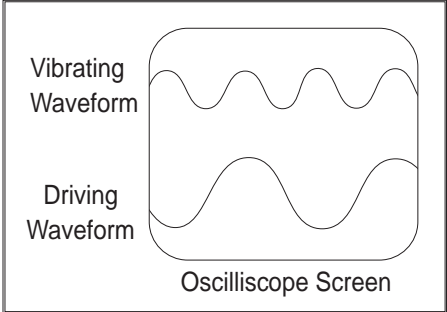

Figure 1.2 String Vibrations at a Multiple of the Driving Frequency
- ② Set the signal generator to produce a sine wave and set the gain of the oscilloscope to approximately 5 mV/cm.
- ③ Slowly increase the frequency of the signal to the driver coil, starting at approximately 25 Hz. Listen for an increase in the volume of the sound from the sonometer and/or an increase in the size of the detector signal on the oscilloscope screen. Frequencies that result in maximum string vibration are resonant frequencies. Determine the lowest frequency at which resonance occurs. This is resonance in the first, or fundamental, mode. Measure this frequency and record it in Table 1.1.
- ④ Start with the detector as close as you can get it to one of the bridges. Watch the oscilloscope as you slide the detector slowly along the string. Locate and record the locations of each node and antinode. Record your results in Table 1.1.
- ⑤ Continue increasing the frequency to find successive resonant frequencies (at least five or six). Record the resonance frequency for each mode, and the locations of nodes and antinodes in Table 1.1.
► **NOTE:** The driving frequency of the signal generator may not be the frequency at which the wire is vibrating. By using a dual trace oscilloscope, you can determine if the two frequencies are the same, or if the vibrating frequency is a multiple of the driving frequency, as shown in Figure 1.2.